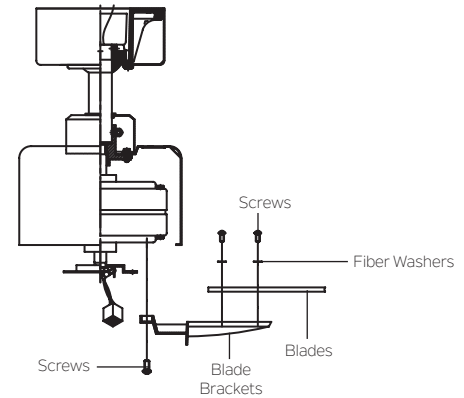

Fig. 14
Step 1. Attach a blade to a blade bracket using the screws and fiber washers provided. (Fig. 14)
Step 2. Attach each blade assembly to the motor using the blade bracket mounting screws. (Fig 14)